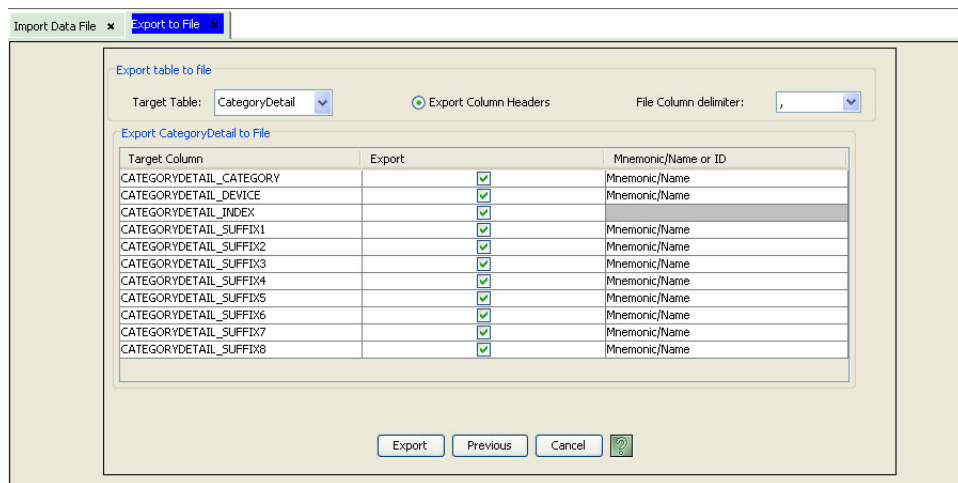

Figure 6-7. Example of the Export Table to File Page
- 4 The 'Export table to file' page appears displaying the columns for the selected table, as shown in Figure 6-7. To pick a different table, select one from the 'Target Table' drop-down list.